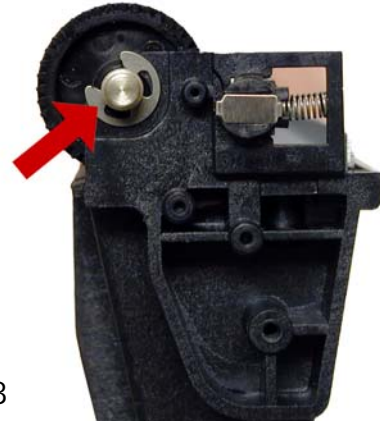

Figure 28
25) On the waste hopper, remove the E-ring from the drum axle. See **Figure 28**